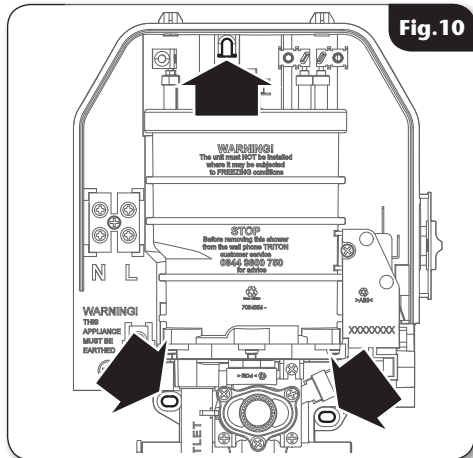

Fig. 10
- Use the backplate as the template making sure it is level and mark the fixing holes (**fig. 10**).